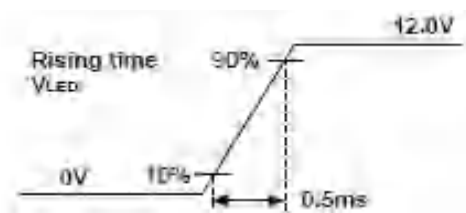

Figure 3.2. Inrush Measure Condition
4. Measure condition (Figure 3.2)